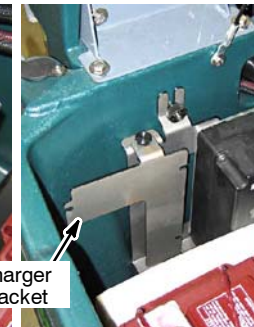

Fig. 5
5. Re-install the charger bracket (Fig. 5).